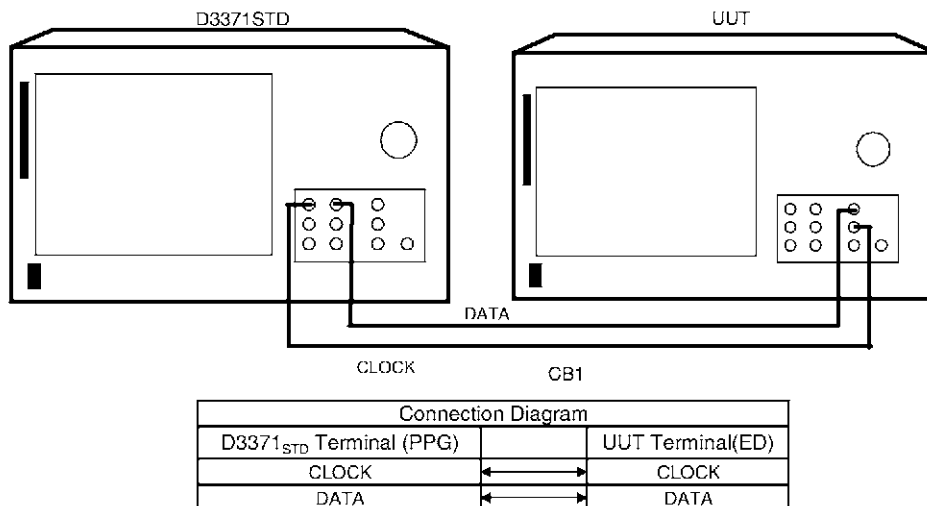

Figure 1-5 Setup of Data Input Level Test
1. Connect equipment as shown in Figure 1-5.